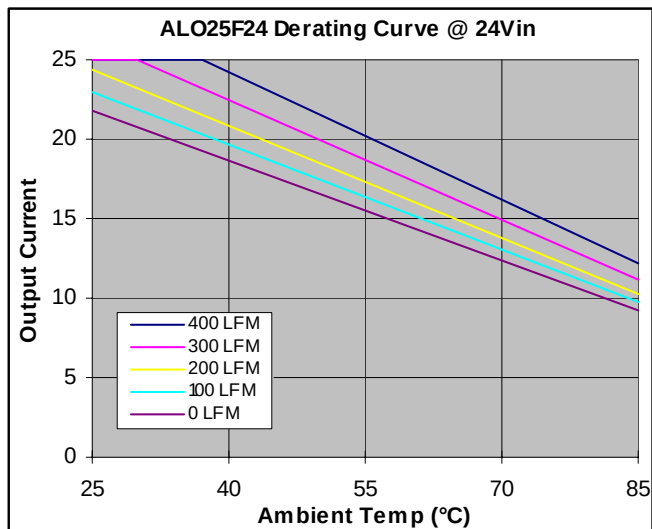

Figure 11. Output Current vs. Temperature at $V_{IN} = 24\text{V}$, $I_O = \text{Full Load}$, $T_A = 25^\circ\text{C}$.
4. Output power derating applies at elevated temperature. Refer to Figure 11.